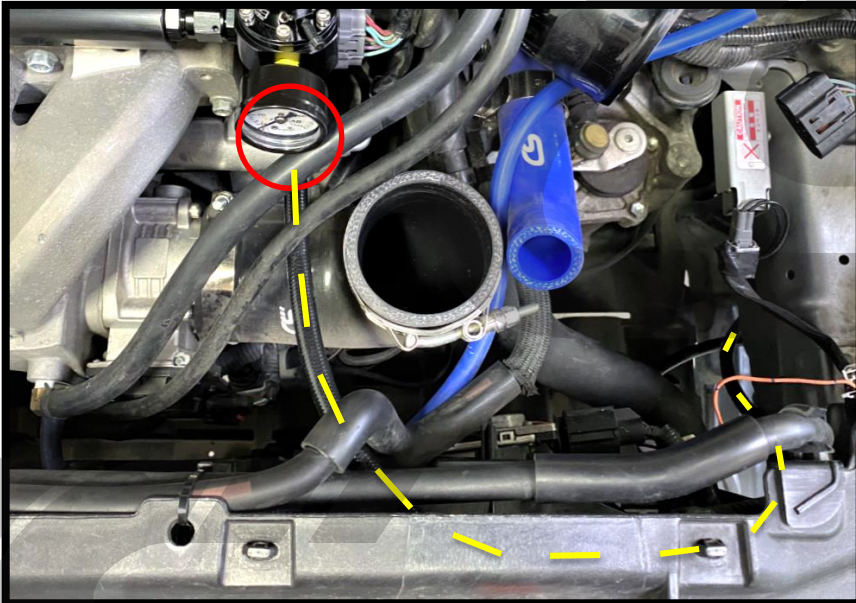
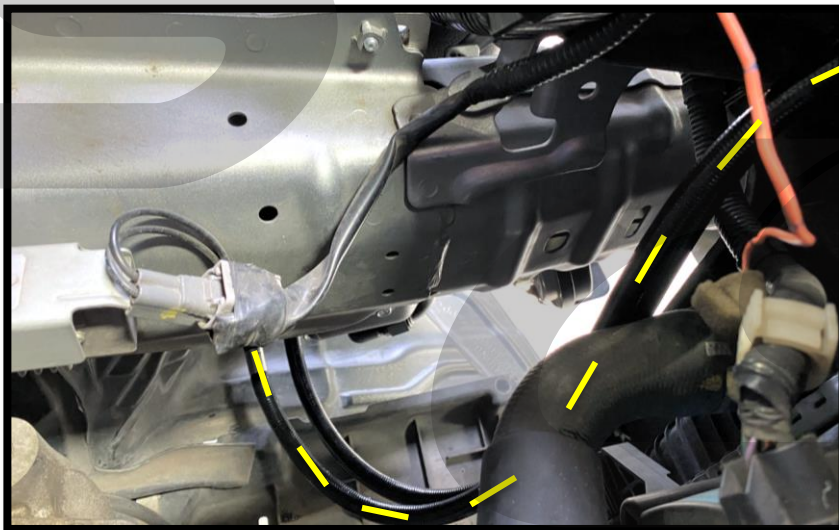

Figure 12l
Figure 12m
- q) Locate the final remaining fuel line in your kit. Connect the 90° end to the bottom of the fuel pressure regulator. Shown **circled in red** in **Figure 12l**. Tighten until snug using an 11/16" or adjustable wrench.
- r) Route this fuel line along the first fuel line and connect to the 10258 fitting installed earlier. Tighten until snug using an 11/16" or adjustable wrench. Approximate line routing shown with yellow lines in **Figure 12l** and **Figure 12m**.